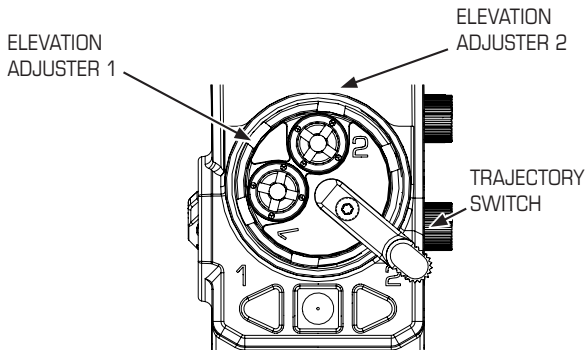

Figure 3.5-1 *BOSS Xe* Elevation Adjustment
- Step 4.)** Turn the trajectory switch to activate Elevation Adjuster 1 (see Figure 3.5-1).